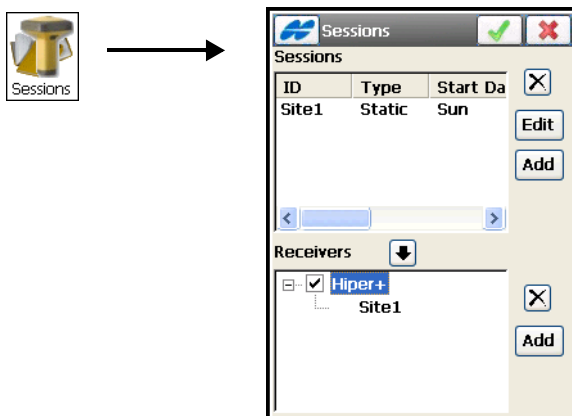

Figure 6-57. Sessions
To create or edit GPS sessions of the automatic survey for post-processing, tap the **Sessions** icon. The **Sessions** (Figure 6-57) screen displays.
- The ok  button– saves the changes and returns to the *Sessions* screen (Figure 6-57 on page 6-48).